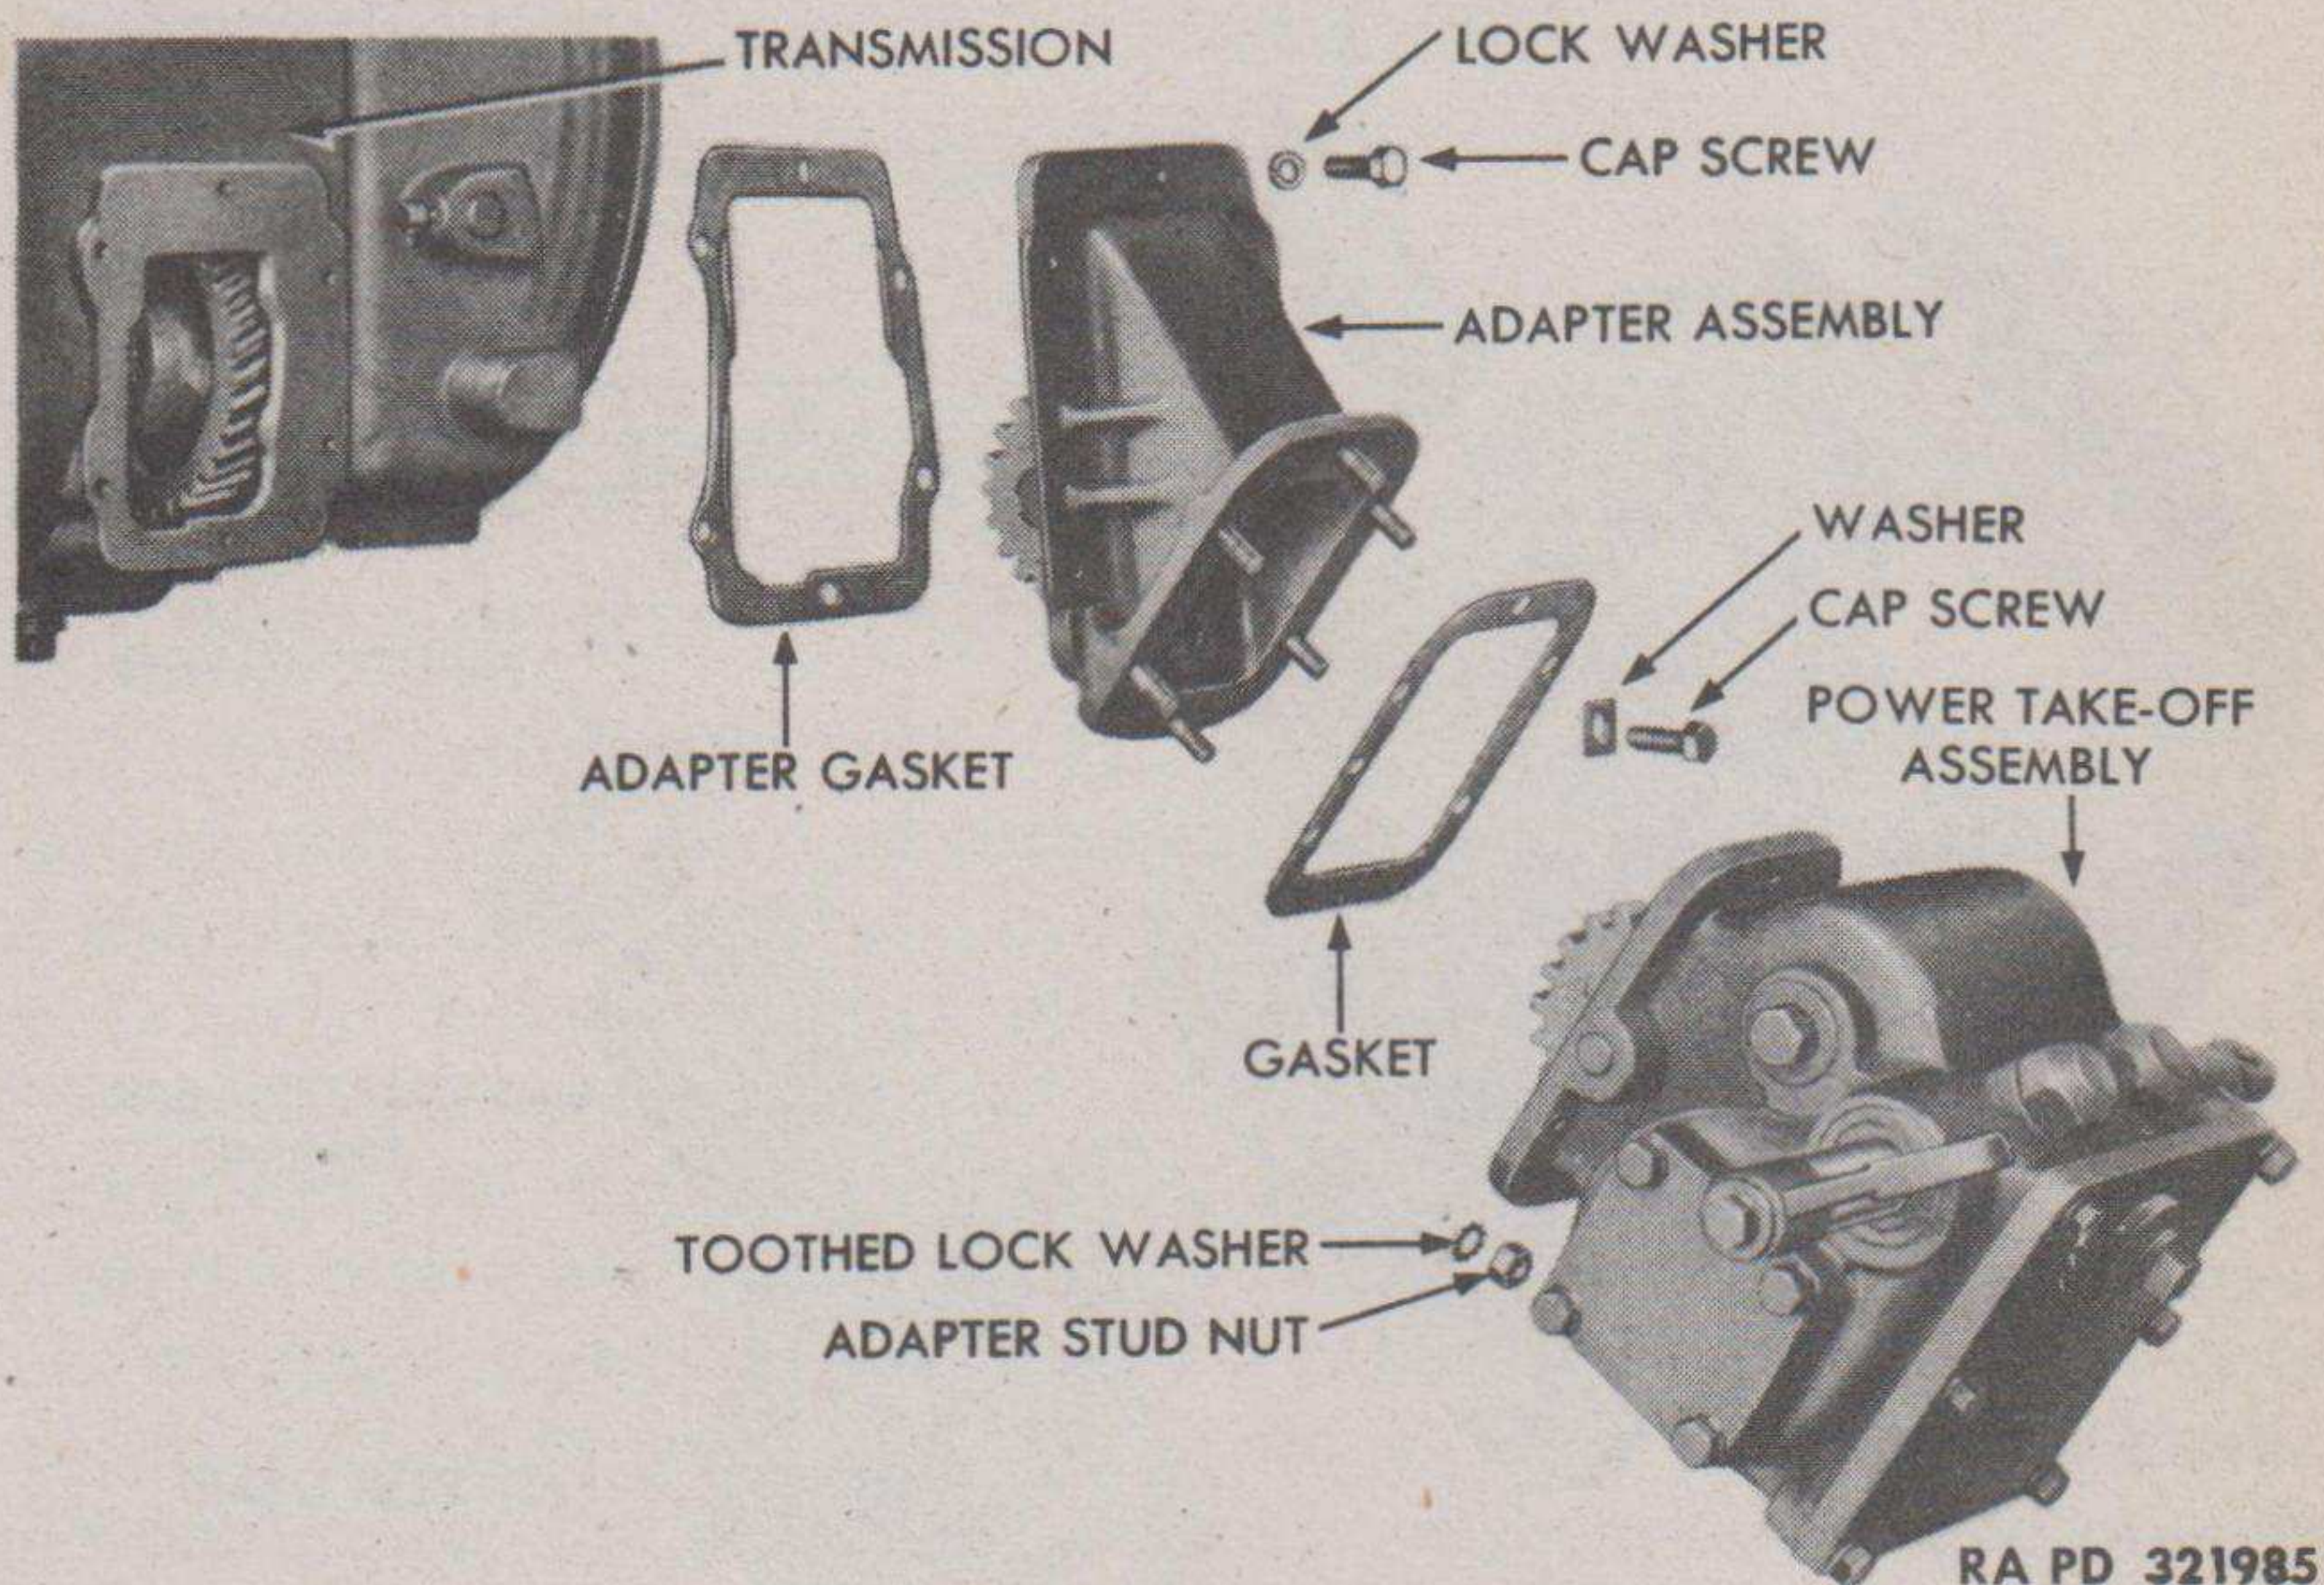

Figure 19 – Power Take-off and Adapter Removed From Transmission
d. **Remove Power Take-off Assembly** (fig. 19). Remove stud nuts and internal-toothed lock washers attaching take-off to take-off adapter. Lift off take-off assembly and gasket.
e. **Remove Power Take-off Adapter Assembly** (fig. 19). Remove one cap screw and square flat washer from inside of adapter. Remove five cap screws and lock washers attaching outer edge of adapter to transmission case. Lift off adapter and gasket.
a. **Install Power Take-off Adapter Assembly** (fig. 19). Using a new gasket, position adapter against transmission case. Make sure adapter gear is in mesh with transmission power take-off gear. Install cap screws and lock washers holding adapter to transmission case.
b. **Install Power Take-off Assembly** (fig. 19). Place a new gasket on adapter studs and position take-off assembly. Secure assembly to adapter with internal-toothed lock washers and stud nuts.